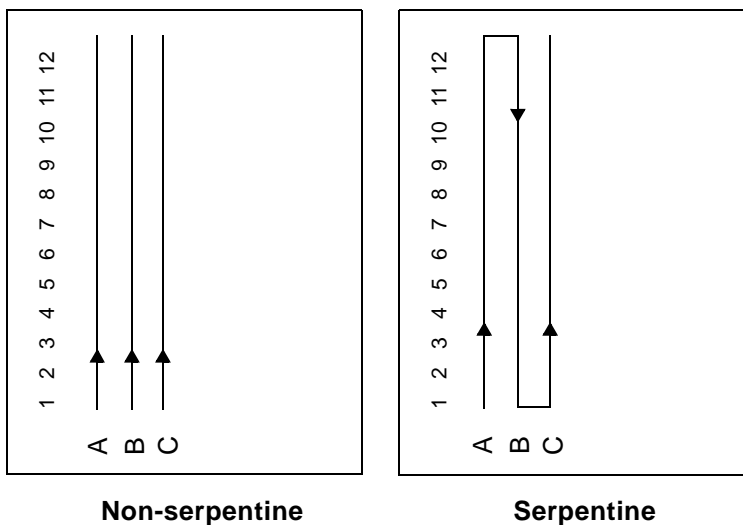

Figure 4-26 Microtiter Plate Filling Patterns
6. If you select a microtiter plate rack, select or deselect the Non-Serpentine check box to control the filling pattern during fraction collection (see Figure 4-26):